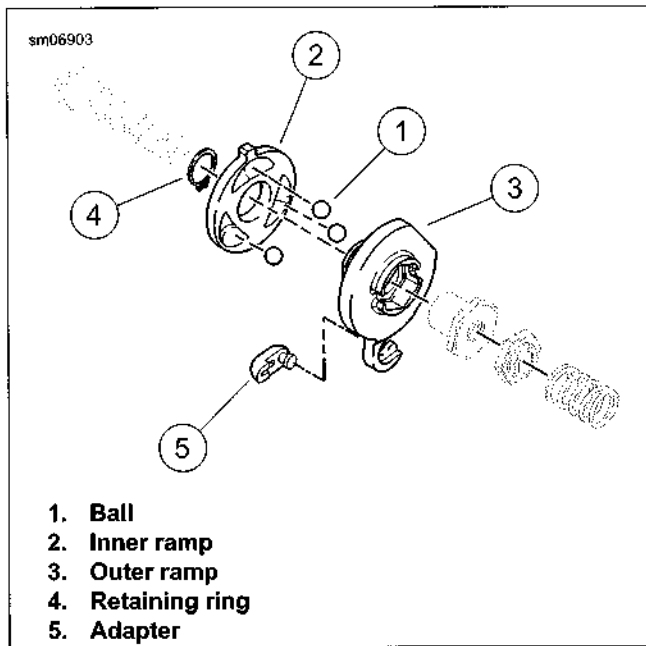

Figure 5-6. Clutch Release Ramp
2. See Figure 5-6. Inspect three balls (1) and ball socket surfaces of inner ramp (2) and outer ramp (3). Replace or repair as necessary.
- d. Install **new** retaining ring (4) in groove of outer ramp hub.
- a. Fit adapter (5) over clutch cable end with rounded side inboard, the ramp connector button outboard.